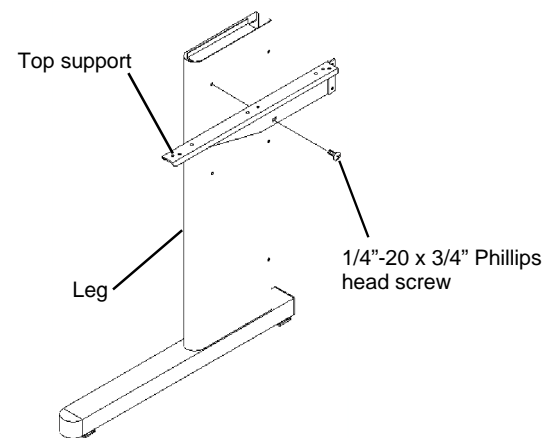

Figure 1
1. Assemble a **Top Support** to the leg using one 1/4"-20 x 3/4" Phillips head screw. **Do not** fully tighten the screw at this time. See **Figure 1**.